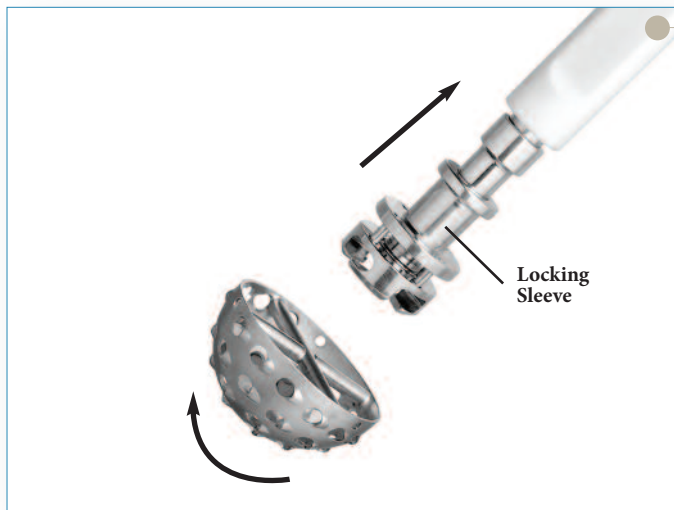

Figure 4
- ▶ The full profile of the CuttingEdge Spherical Reamer necessitates reaming to the full depth. The reamer head should be driven to the point where the rim/cross bar contacts the acetabular wall at the peripheral lunate region. Removal of the reamer from the handle is performed by pulling back on the locking sleeve and rotating the reamer head a quarter-turn in a clockwise direction (**Figure 4**).